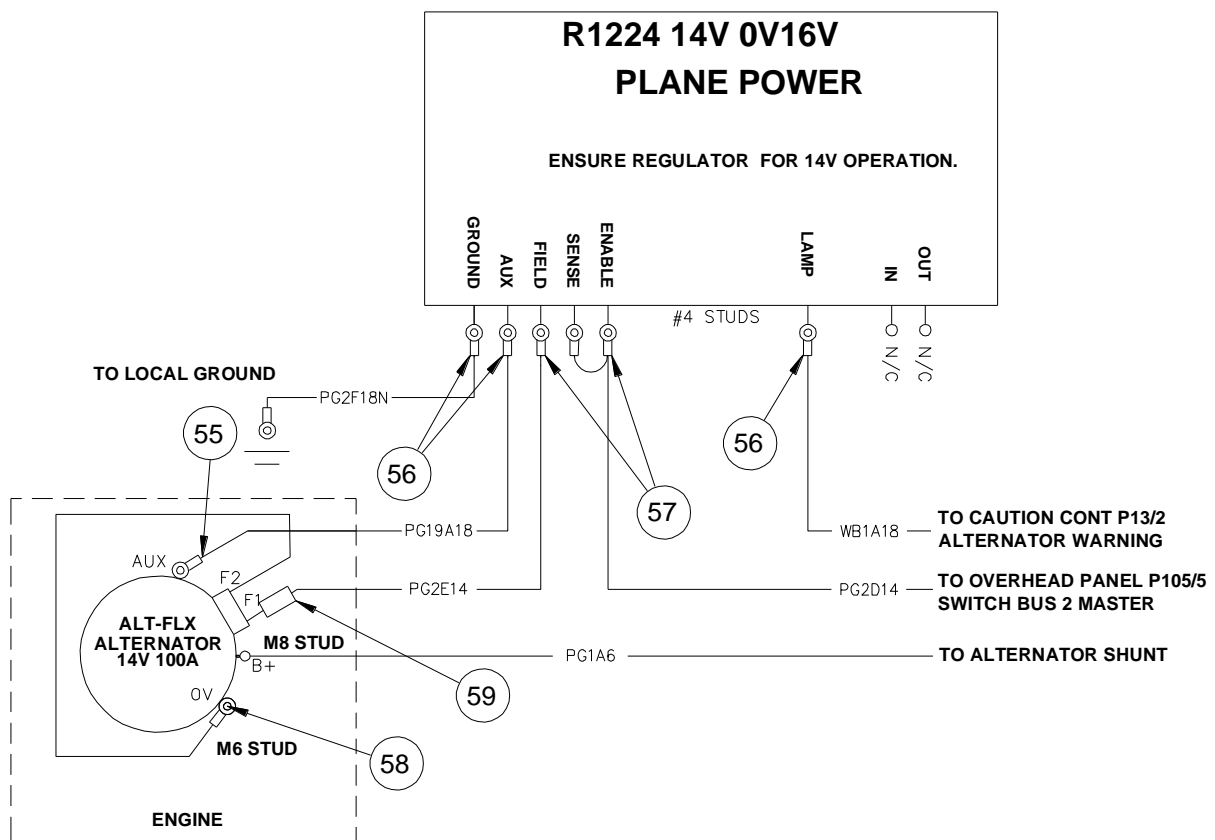

Figure 10 – Wiring Diagram
29. Install wire PG19A18 (AUX wire) between the Caution controller mounting tray and the alternator. Tie the wire into the main loom. Install terminals and connect to the Alternator and regulator (Ref Figure 10).
30. Connect the wire PG2E14 to the ALT-FLX supplied 15-5050 Wire Harness/Plug wire F1 using an environmental splice (item 59). Connect the F2 wire to an earth stud on the alternator using terminal item 58.
31. Fit an insulating nipple (item 60) to the main power lead PG1A6 and connect to the alternator B+ stud.
32. Refer Figure 10, using appropriate terminals, connect the wiring to the R1224 Voltage Regulator.